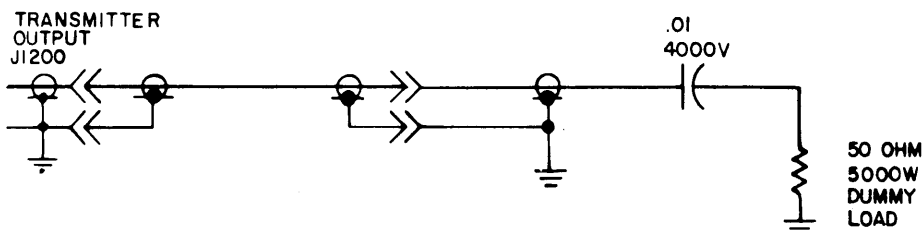

Figure 5-1. Test Setup, SWR Overload
- (1) Set MAIN POWER circuit breaker at OFF.
- (2) Connect 50-ohm dummy load and 0.01 microfarad 4000-volt capacitor in series to transmitter output as shown in figure 5-1.